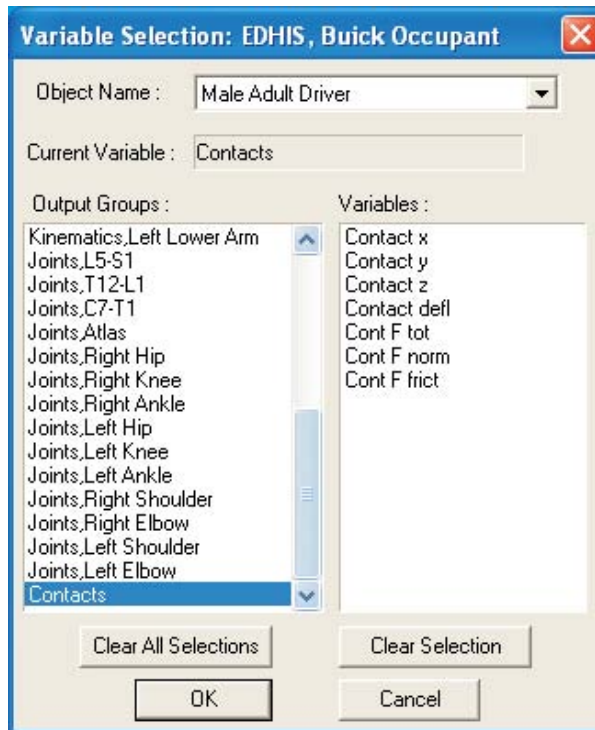

Figure 5-16 Key Results Variable Selection dialog, used for selecting variables to be displayed in the Key Results window.
- Click *Contacts* and choose *Head, Head* and *Buick Skylark 4-Door Head Rest* from the cascade menus. The Variable Selection list for Head vs Head Rest contact is displayed (see Figure 5-16).
**NOTE:** The first time *Head* is displayed (see Figure 5-16), it refers to the Head segment; the second time refers to the contact ellipsoid named *Head* that is attached to the Head segment.